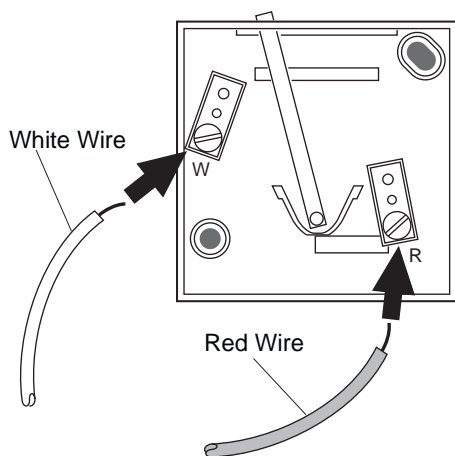

Figure 6 - Connecting Thermostat Wires to Thermostat
1. Connect thermostat wires to the two terminal screws on back of thermostat (see Figure 6). Connect red wire to "R" terminal. Connect white wire to "W" terminal.